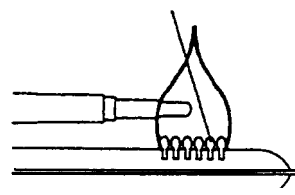

FIG. 17
- NOTE:** The color of the flame shall be clear blue over the slots of the burner. (See FIG. 17).